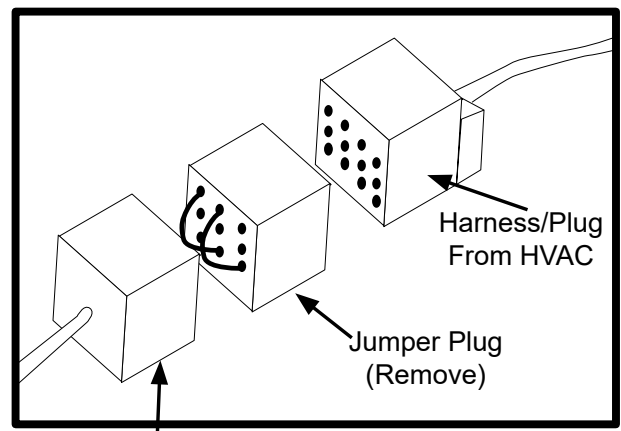

Fig. 6 - Harness and Jumper Plug
- Before the economizer is secured in place on the right hand side, remove and save the 12-pin jumper plug from the unit wiring harness. (See Fig. 6.) Insert the economizer plug into the unit wiring harness plug. (See Fig. 6.)
8. Before the economizer is secured in place on the right hand side, remove and save the 12-pin jumper plug from the unit wiring harness. Insert the economizer plug into the unit wiring harness plug. (**See Fig. 6.**)